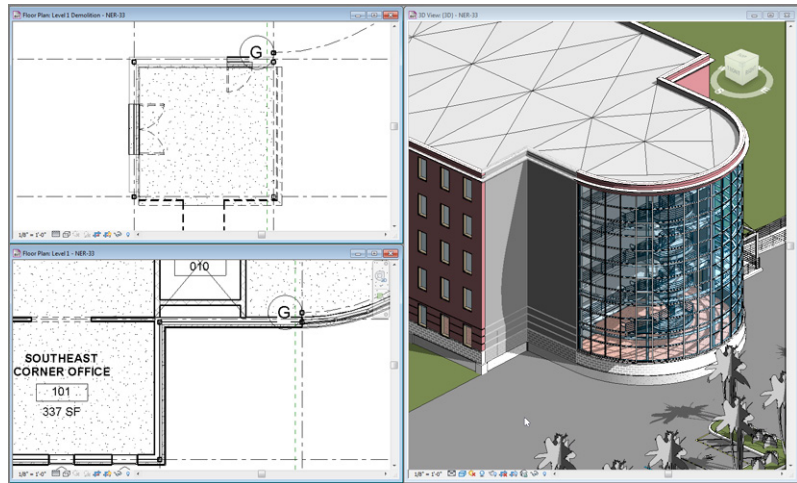

FIGURE 21.7: The completed phasing
19. In the properties, set Phase Demolished to Demolition. Revit removes the doors and infills the openings, as shown in Figure 21.7. (It's